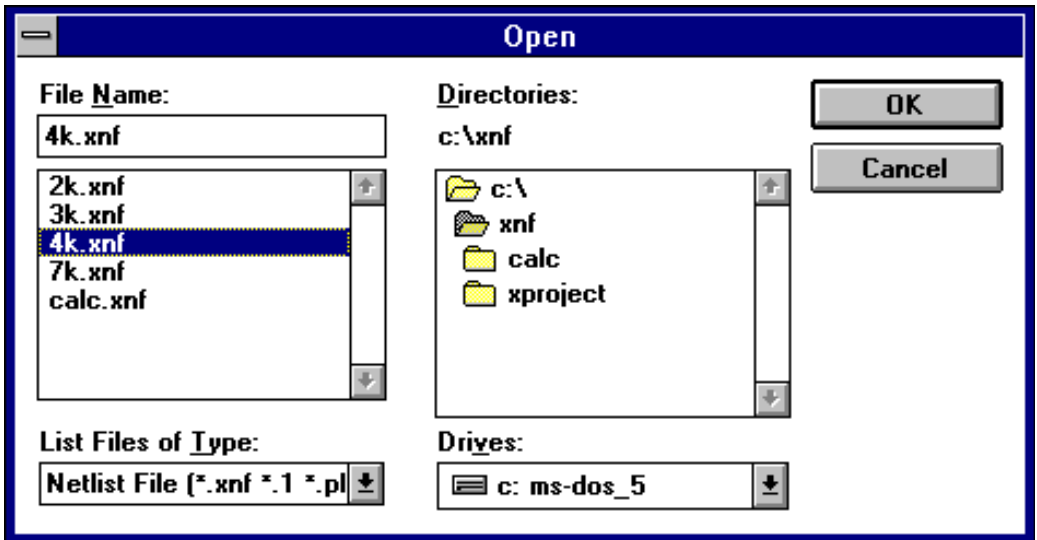

Figure 3-3 Open Dialog Box
- If you don't know the file name, click the Input Design Browse button. A file selection dialog box opens in which you can select a design file to open (see Figure 3-3).